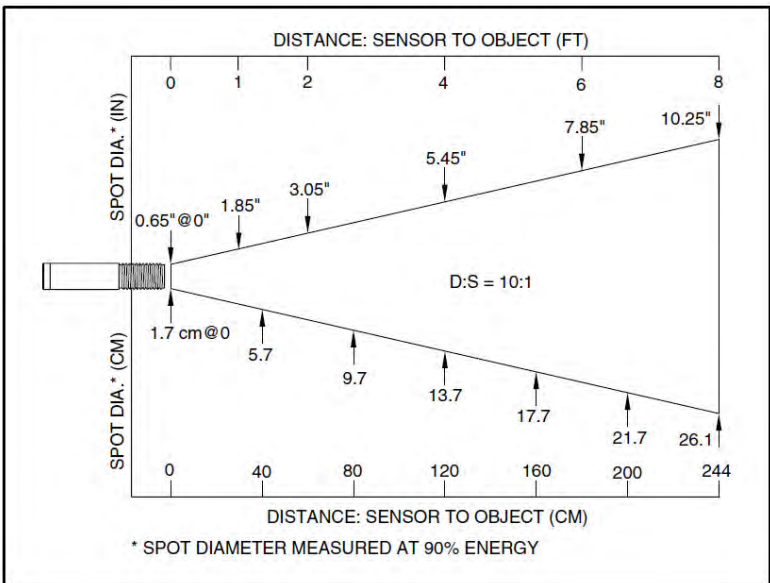

Figure 3-1. Optical Field of View
- The target is larger than the optical field of view of the transmitter (Fig 3-1).